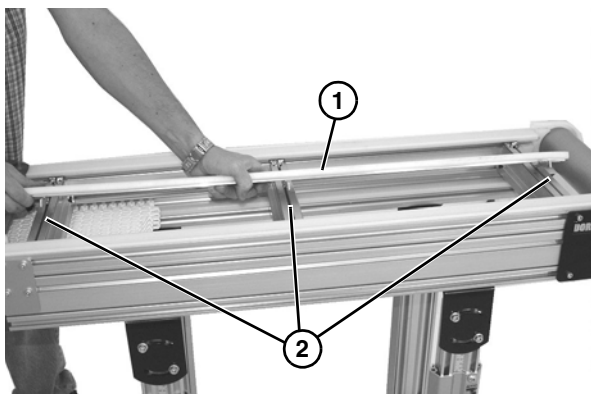

Figure 28
4. Remove center frame channel (**Figure 28, item 1**), making sure to keep each clamp matched with channel of each cross member (**Figure 28, item 2**).